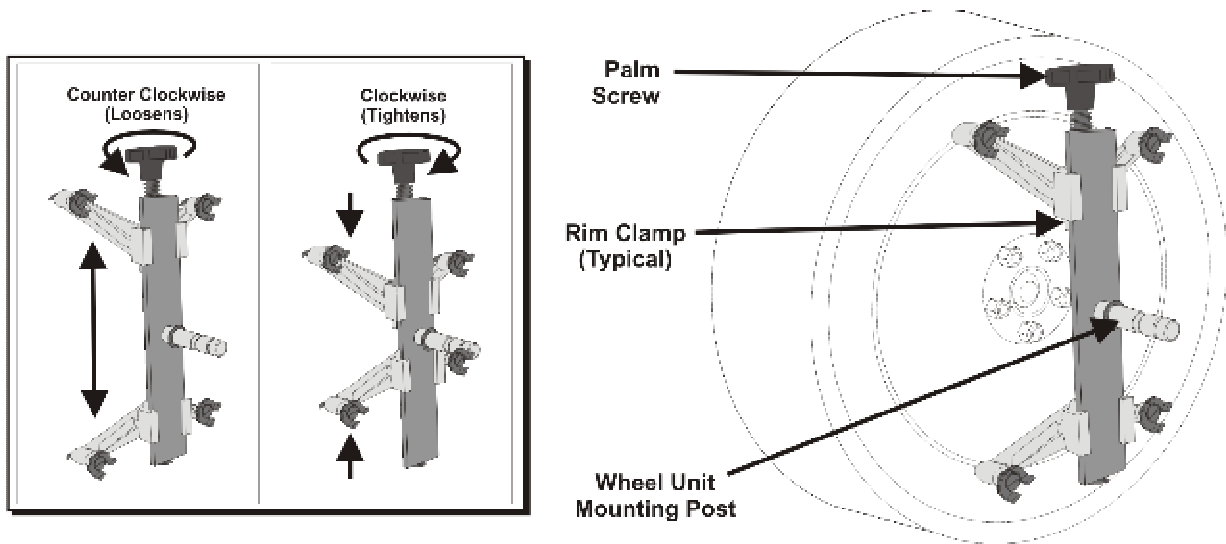

Figure 3-3. Applying Rim Clamps to Vehicle Wheel
3.1.4 Using Figure 3-3 as a guide, align the first rim clamp with the front left tire, and place onto rim.